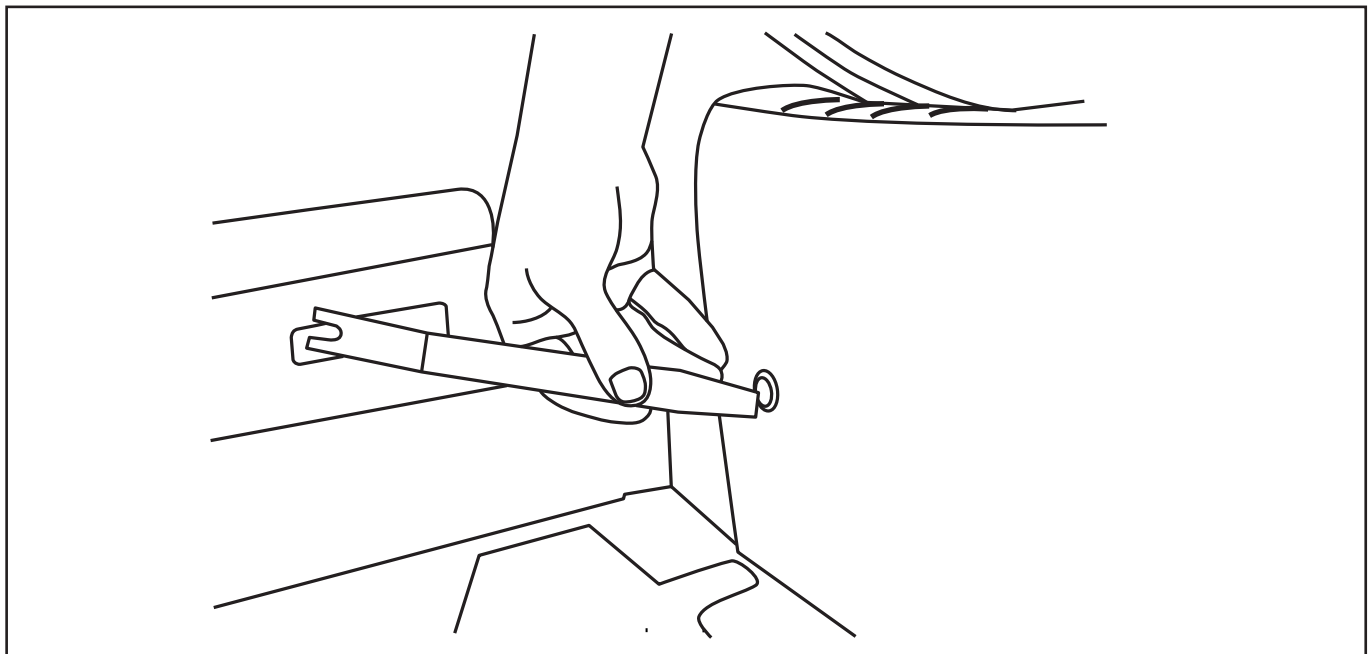

Fig. 3
4. Remove push-rivets from rear trunk panel (2 total) (Fig. 3).